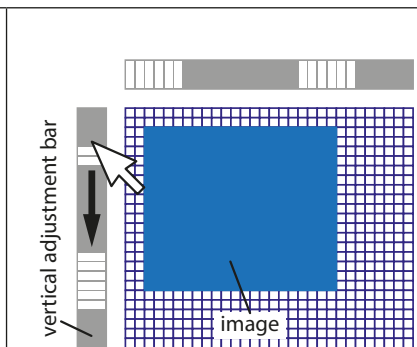

Fig. 99
3. To de-select the 'pixel zone' click and hold down on the left mouse button whilst moving the cursor down and the individual pixels will 'grey out' (de-select) one by one as the cursor continues to move back down the bar, as shown in **Fig.99**.